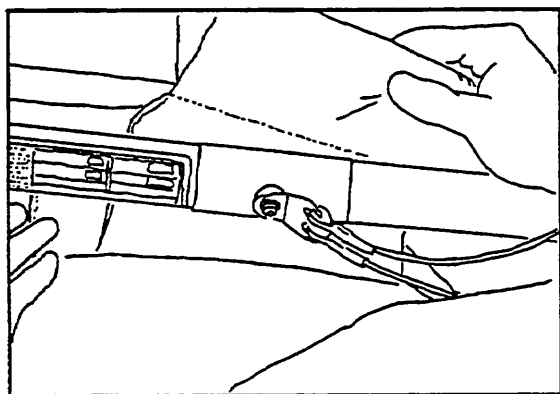

Figure 89
12) Slide the protective pad on the control bar bag under and around the keel tube at the rear wire bolt. Install the keel end protector cover. (Figure 89, 90)